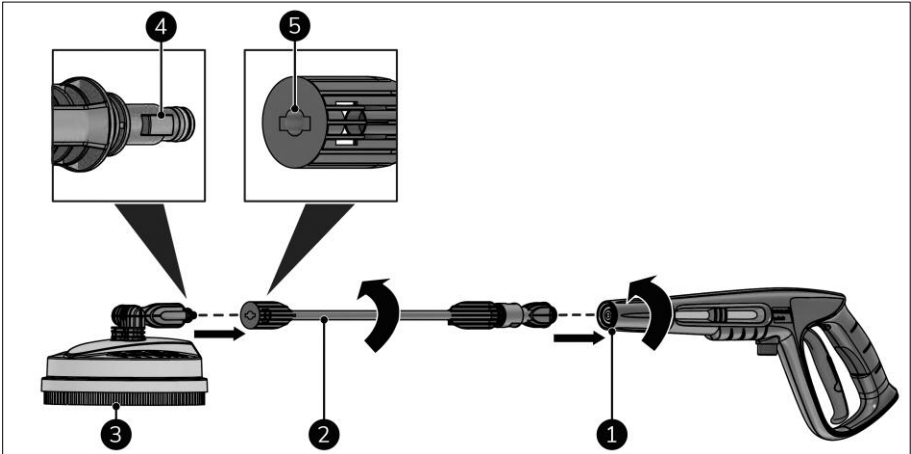

Figure 15
1. Align the ridge of the floor cleaner (Figure 15, pos. 4) with the groove in the floor cleaner lance (Figure 15, pos. 5).
2. Insert the floor cleaner (Figure 15, pos. 3) into the floor cleaner lance (Figure 15, pos. 2).
4. Screw the floor cleaner lance on the jet gun (Figure 15, pos 1).